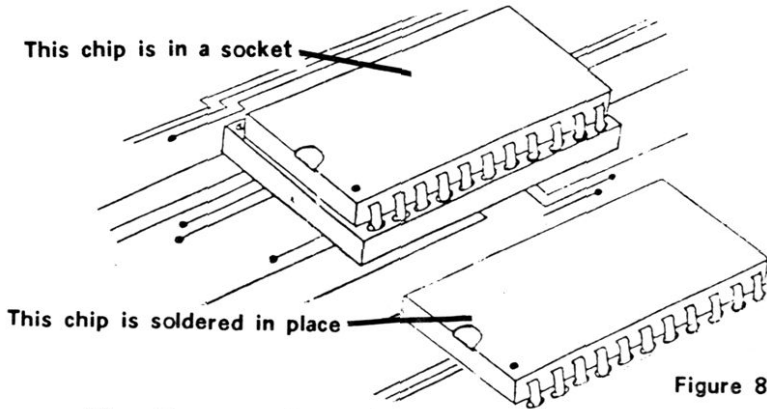

Figure 8
- 11 Determine whether your computer's microprocessor is in a socket or whether it is soldered in place. If it is soldered in place you will not be able to install the jrExcellerator. See figure 8.